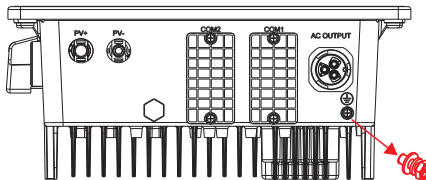

Figure 5.3 Remove the ground screws
Step 3 Remove the ground screws from the ground points, as shown in Figure 5.3.